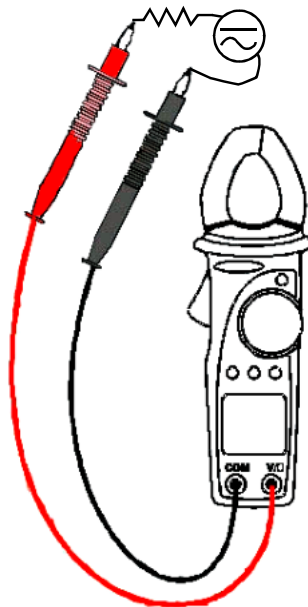

Fig. 5: Use of clamp for AC/DC μ A current measures
2. Insert the test leads into the jack, the red lead into “+” jack, and the black lead into the COM jack. Refer to Fig. 5.
5. Press R-H key you can select manually the measurement ranges in cyclic order. Press R-H key 2 seconds to return to the AUTOMATIC range selection.